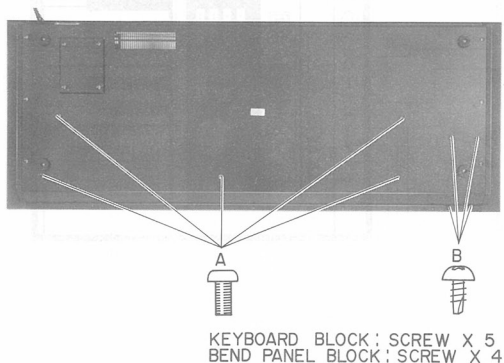

Fig. 2-3
### 2-2. How to dismantle the Keyboard Block and bend Panel Block. (Refer to Fig 2-3)
- 1) Remove the screws in group A (5 screws) for the Keyboard Block, and the screws in group B (4 screws) for the Bend Panel Block (Refer to Fig. 2-3)